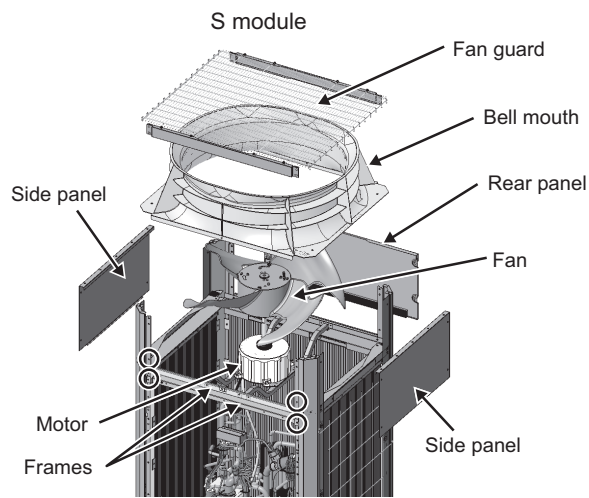
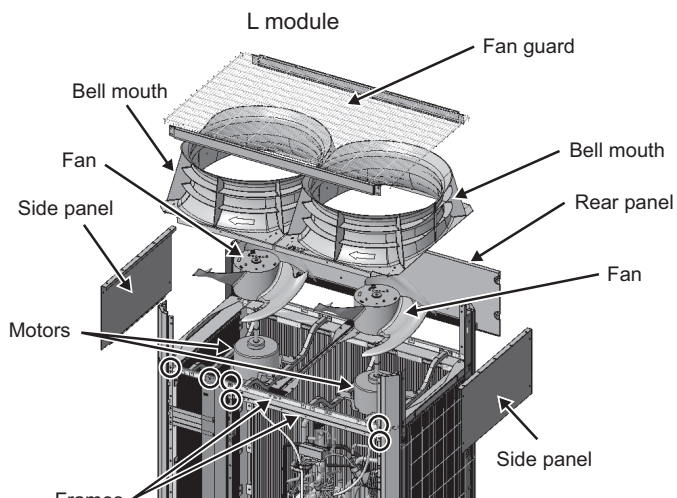

Fig. 2
Fig. 3
Refer to Section [8-12-7 Maintenance Procedures for the Heat Exchanger] for details. (Fig. 2)
(3) Remove the frames. (Four screws on S module: Fig. 2, six screws on L module: Fig. 3)